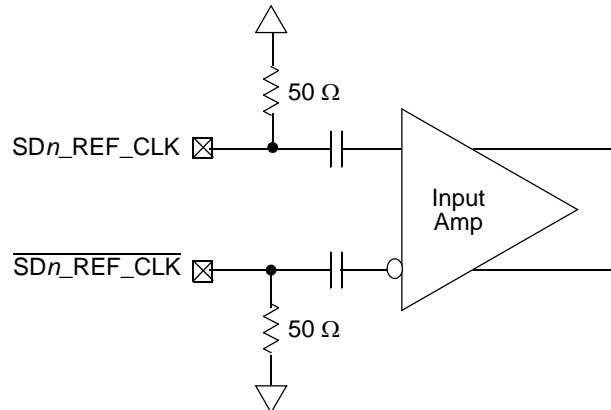

Figure 44. Receiver of SerDes reference clocks
- The SDn_REF_CLK and $\overline{SDn_REF_CLK}$ are internally AC-coupled differential inputs as shown in Figure 44. Each differential clock input (SDn_REF_CLK or $\overline{SDn_REF_CLK}$) has on-chip $50\text{-}\Omega$ termination to SV_{SSn} followed by on-chip AC-coupling.